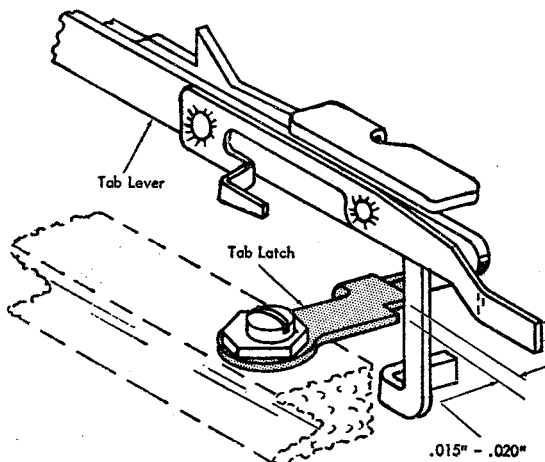

Figure 27. Operating Link Adjustment
The tab latch is mounted atop the rear rail with an adjustable eccentric and works against a lower extension of the tab lever (Figure 27). The tab-check lever works against a lug on the tab latch to effect tab lever unlatching.
**8. OPERATING LINK.** Adjust the length of the link so there is a clearance of .015" to .020", between the contact surfaces of the tab latch and the tab lever, when the cam is on its high point (Figure 27).